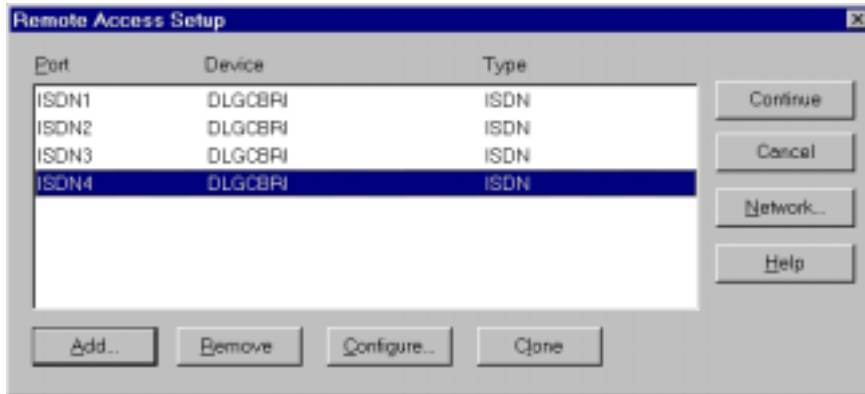
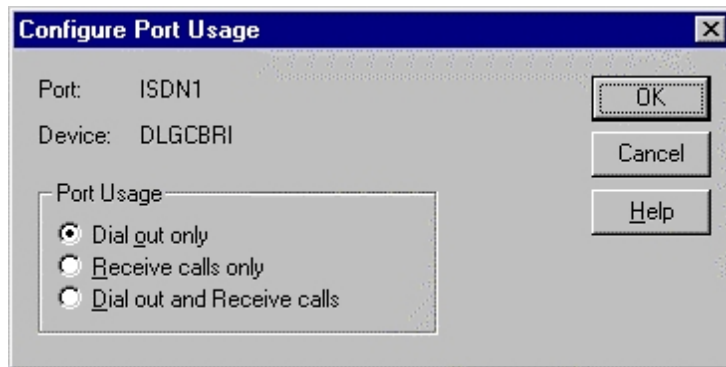
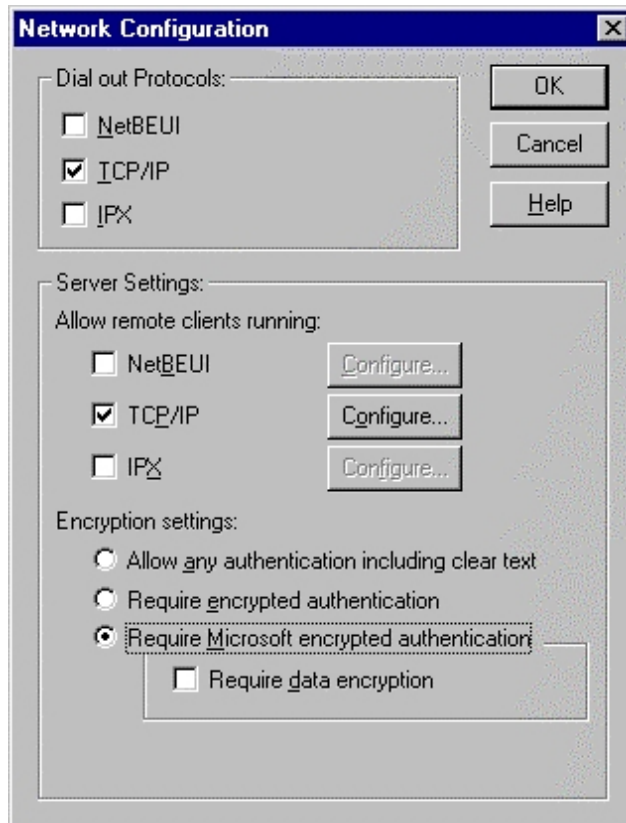

Figure 17. Remote Access Setup Window after Adding Four Ports
Figure 18. Configure Port Usage Dialog Box
Figure 19. Network Configuration Dialog Box
After all ports are added, the **Remote Access Setup** window contains an entry for each port as shown in Figure 17. Continue with the procedure in Step 4: Configuring RAS Devices (Windows NT).
1. In the **Remote Access Setup** window (Figure 17, “Remote Access Setup Window after Adding Four Ports”, on page 90) select one of the ISDN ports and click the **Configure** button. The **Configure Port Usage** dialog box is displayed (Figure 18).
1. In the **Remote Access Setup** window (Figure 17, “Remote Access Setup Window after Adding Four Ports”, on page 90) click the **Network** button to configure the network protocols for all BRI/2 ISDN ports. The **Network Configuration** dialog box (Figure 19) is displayed.
NOTE: This dialog box is displayed only if you configured a port to dial out and receive calls on the **Configure Port Usage** dialog box (Figure 18, “Configure Port Usage Dialog Box”, on page 91). If you configured the ports to dial out only, the **Network Configuration** dialog box includes only the Dial out Protocols area. If you configured the ports to receive calls only, the **Network Configuration** dialog box includes only the Server Settings area.